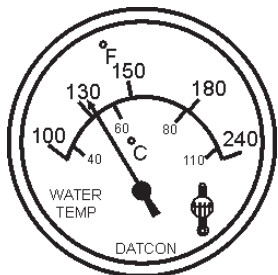

Figure 58. Coolant Temperature Gauge
15. The coolant temperature gauge (Figure 58) will indicate the coolant temperature. Under normal operating conditions the coolant temperature is between 165 and 215 degrees fahrenheit.